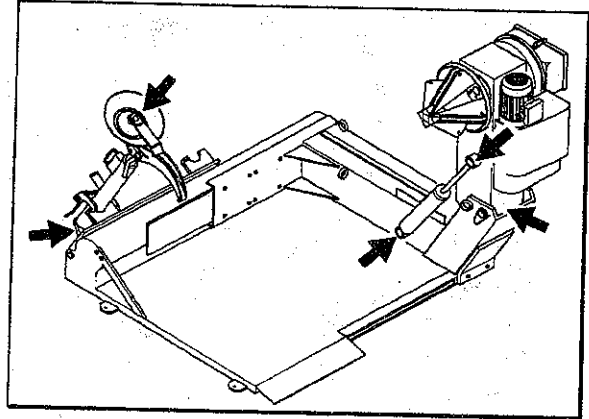

Fig.53
- Lubricate all points provided with a greasing nipple once a month (Fig.53).